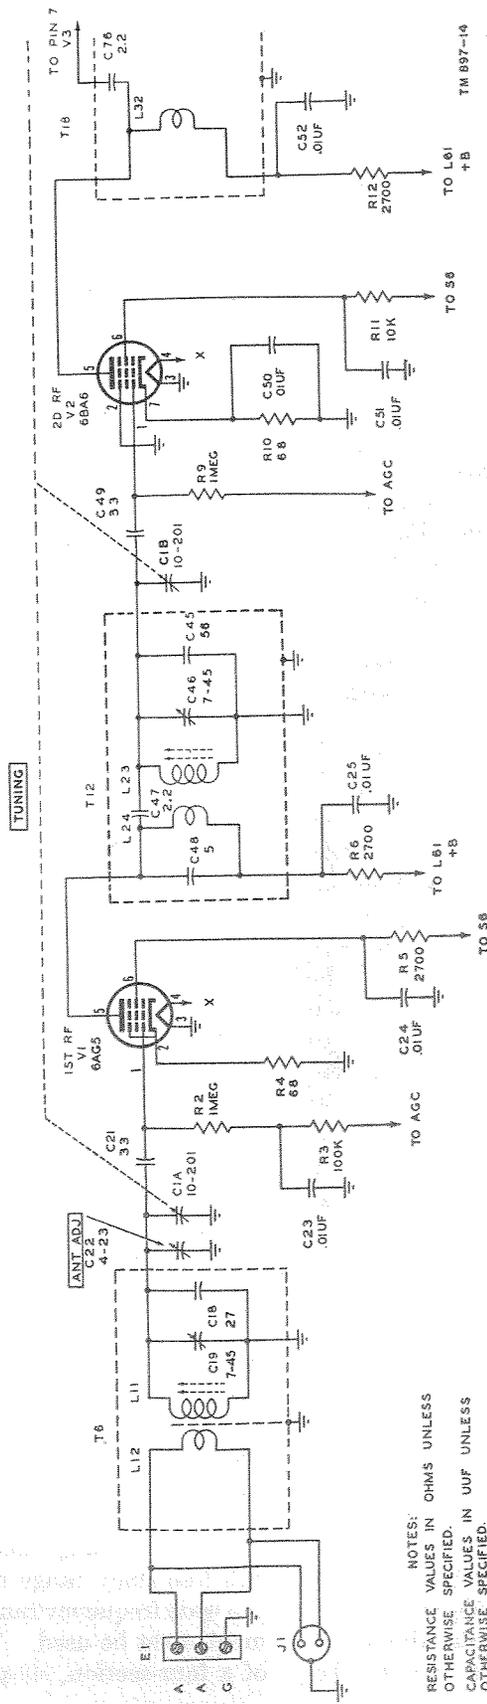

Figure 14. Radio Receiver R-274/FRR, functional diagram of 1st and 2d r-f amplifier.
*Note.* Figures 14 through 20 are keyed to paragraphs 40 through 48 and assume operation with the turret switch in BAND VI. These connections are typical of operation in BAND VI or V and may be construed as typical of operation in BAND I, II, or III, except that the i-f switch-over relay (K1) is not actuated and the 6-mc strip (V6, V7, and V8) does not operate for BAND I, II, or III. By assuming operation in BAND VI, the theory of operation within the 6-mc strip may be included logically.
(fig. 14)
all r-f and vfo coils easily available. All positions of this turret are shown in the complete schematic of figure 43, and one position corresponding to BAND VI is shown in figure 14.
b. In the partial circuit diagram of figure 14, it can be seen that the coupling of the antenna to the 1st r-f stage is through r-f transformer (T6) when the turret switch is in the BAND VI position. Note that the low-impedance (50-200 ohms) primary winding of T6 is designed to connect to a balanced, spaced-pair, twin-conductor, coaxial transmission line. The primary winding also is designed so that an unbalanced, single-conductor coaxial transmission line or single-wire lead-in from an antenna can be used by connecting terminal G of E1 to ground and the antenna lead to terminal A of E1. Capacitor C22 (ANT ADJ) is a front panel adjustment which compensates for variable antenna characteristics that cause detuning of the antenna input transformer. The secondary of T6 is tuned by capacitor C1A, and the signal is coupled to V1 by capacitor C21. Capacitors C18 and C19 limit the highest frequency to which the secondary of transformer T6 will tune. Tracking at the high end of the band is accomplished by adjustment of C19. Tracking at the low end of the band is made possible by means of the adjustable powdered-iron core inside transformer T6. Resistor R2 feeds age voltage to the grid of V1. Resistor R3 and capacitor C23 form a filter which prevents any r-f or i-f signals of other amplifier stages from getting into the grid circuit of V1 through the age line. R4 is the cathode resistor of V1 which limits its cathode current to a safe value when no age voltage is being developed. Resistor R5 aids in decoupling the screen of V1, and capacitor C24 bypasses the screen to ground at the radio frequencies. Note that no screen voltage is applied when switch S6 is in the SEND position (fig. 29). In figure 43, resistor R1 is connected to a pair of turret contacts. These contacts are arranged so that R1 is connected across antenna transformer T5 (which is the BAND V transformer) when the turret is in the BAND VI position. This is to prevent any interaction between the transformer in use and the transformer for the next lower frequency band.
(fig. 14).
a. The circuit of the 2d r-f amplifier, when the turret switch is in BAND VI position, also is shown in figure 14. The signal from VI goes to transformer T12, the secondary of which is tuned to the signal frequency by variable gang capacitor C1B. Capacitors C45 and C46 limit the highest frequency to which T12 can be tuned. Tracking at the h-f end of the band is accomplished by adjusting of C46. Tracking at the low end of the band is accomplished by means of the adjustable powdered-iron core inside of transformer T12 to improve gain. Capacitor C47 adds capacitive coupling to the inductive coupling between the primary and secondary of r-f transformer T12. It is used to increase the gain of transformer T12 at the high end of BAND VI. If this capacitor were not used, the gain would be different at the two ends of BAND VI. Capacitor C48 resonates the primary of transformer T12 at a frequency below the lowest frequency in BAND VI, and thereby improves the image rejection ratio.